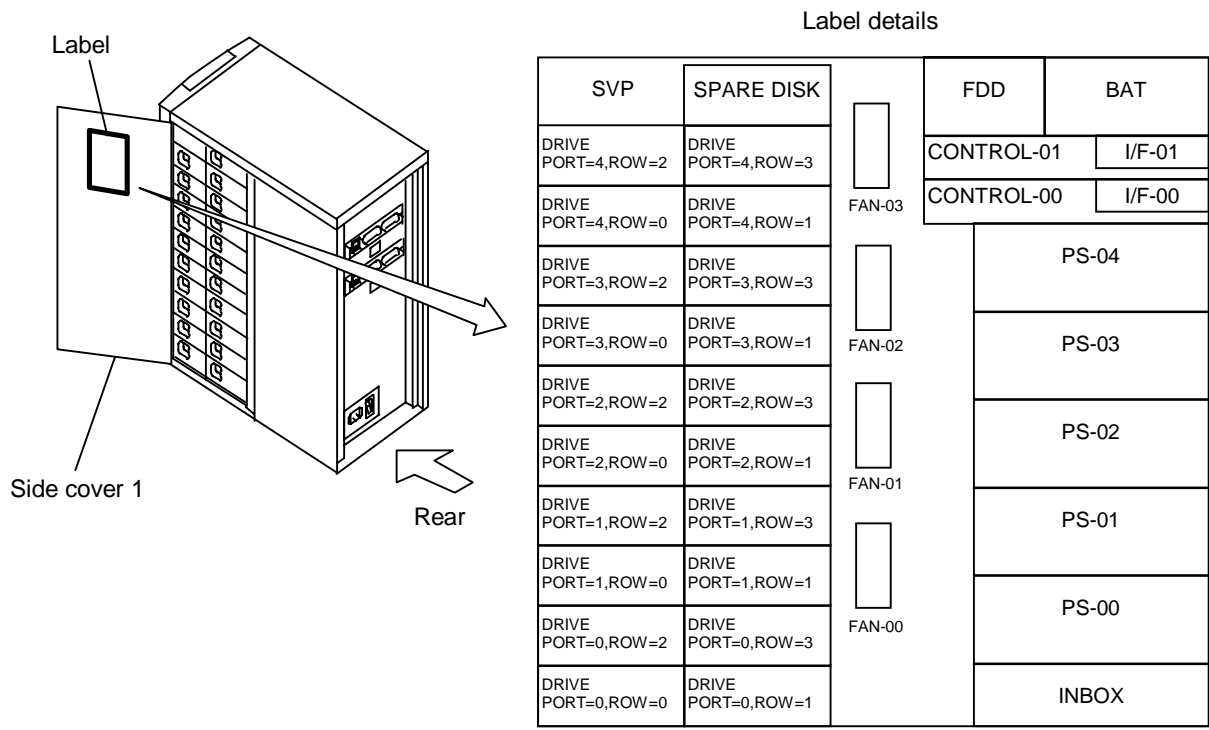

Figure 9.2 Label Layout
**Note 1 :** When the controller is used in a dual configuration, connect the cables to the connectors corresponding to the host to be connected. (See Figure 9.2.)